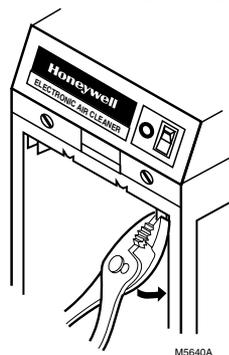

Fig. 6. Crimping the prefilter guide.
- Fasten the other side of the cabinet to the elbow using sheet metal screws, rivets, or slip joints as appropriate. See Fig. 6.
- Crimp the end of the downstream (closest to the furnace) prefilter guide to prevent incorrect prefilter installation following cleaning. See Fig. 6.